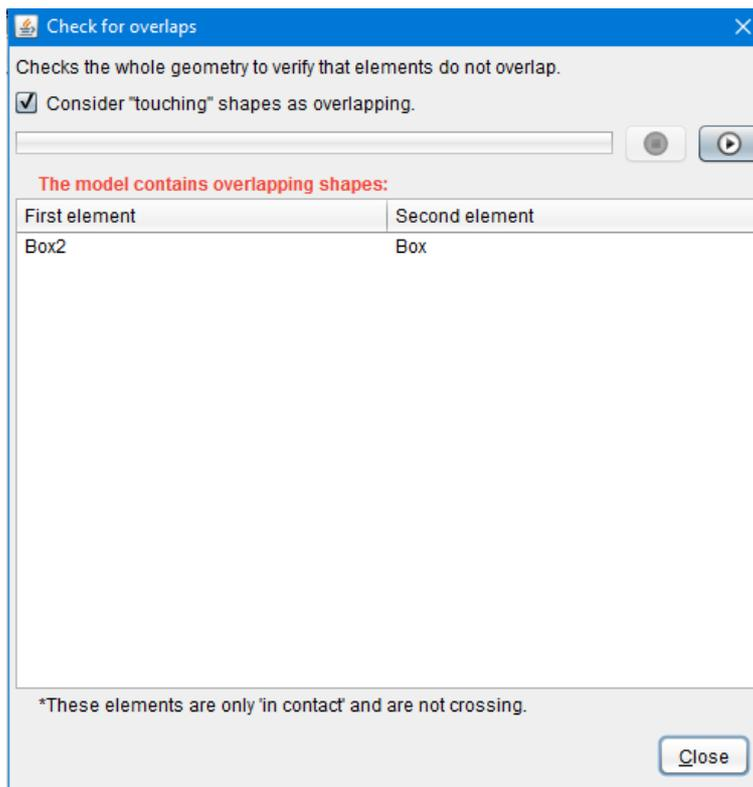

Figure 28: Overlaps calculation results (indicates that the Box2 and Box elements are overlapping)
- “Check for overlaps”: allows the user to check if there are no overlaps inside the geometry, meaning that there are no shapes overlapping each other. The user can choose if “touching” shapes should be considered as overlapping or not. To launch the calculation, the user can click on the “Play” button. The “Stop” button allows the user to stop the calculation at any time. The results of the operation are presented on Figure 28;